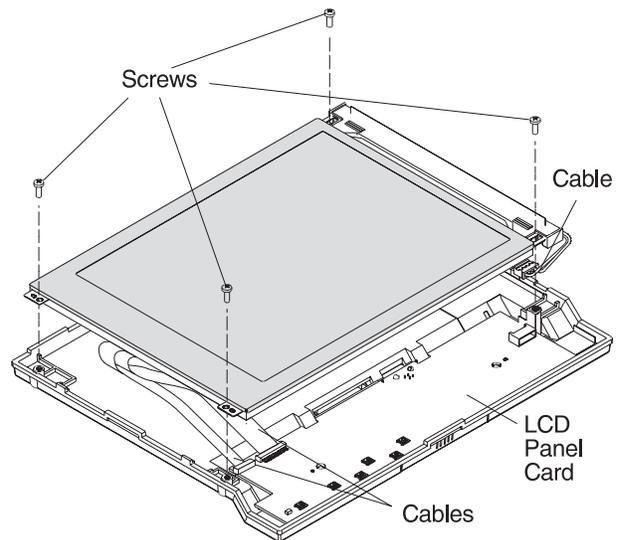

Figure 3-4. Removing the LCD module
- 2 Remove the 4 screws (2). See Figure 3-4.
- 3 Disconnect the cables (3) and (4) attached to the LCD panel card and lift the LCD module assembly out.
- 1** Remove the LCD module assembly. See Figure 3-4 on page 3-6.